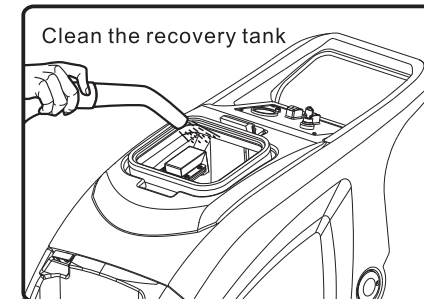

fig. 10
- Clean the recovery tank every time the cleaning work is finished. Drain all the soiled water in the recovery tank. After that, use clean water to wash the recovery tank, and air-dry it. Keeping the recovery tank clean can prevent sludge or foreign objects from blocking the tank (fig. 10).